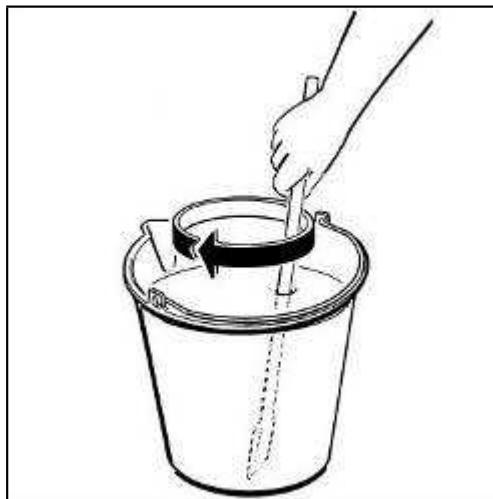

Рис. 4
- Dilute and mix the product in a separate container according to the manufacturer's instructions (see Рис.4).